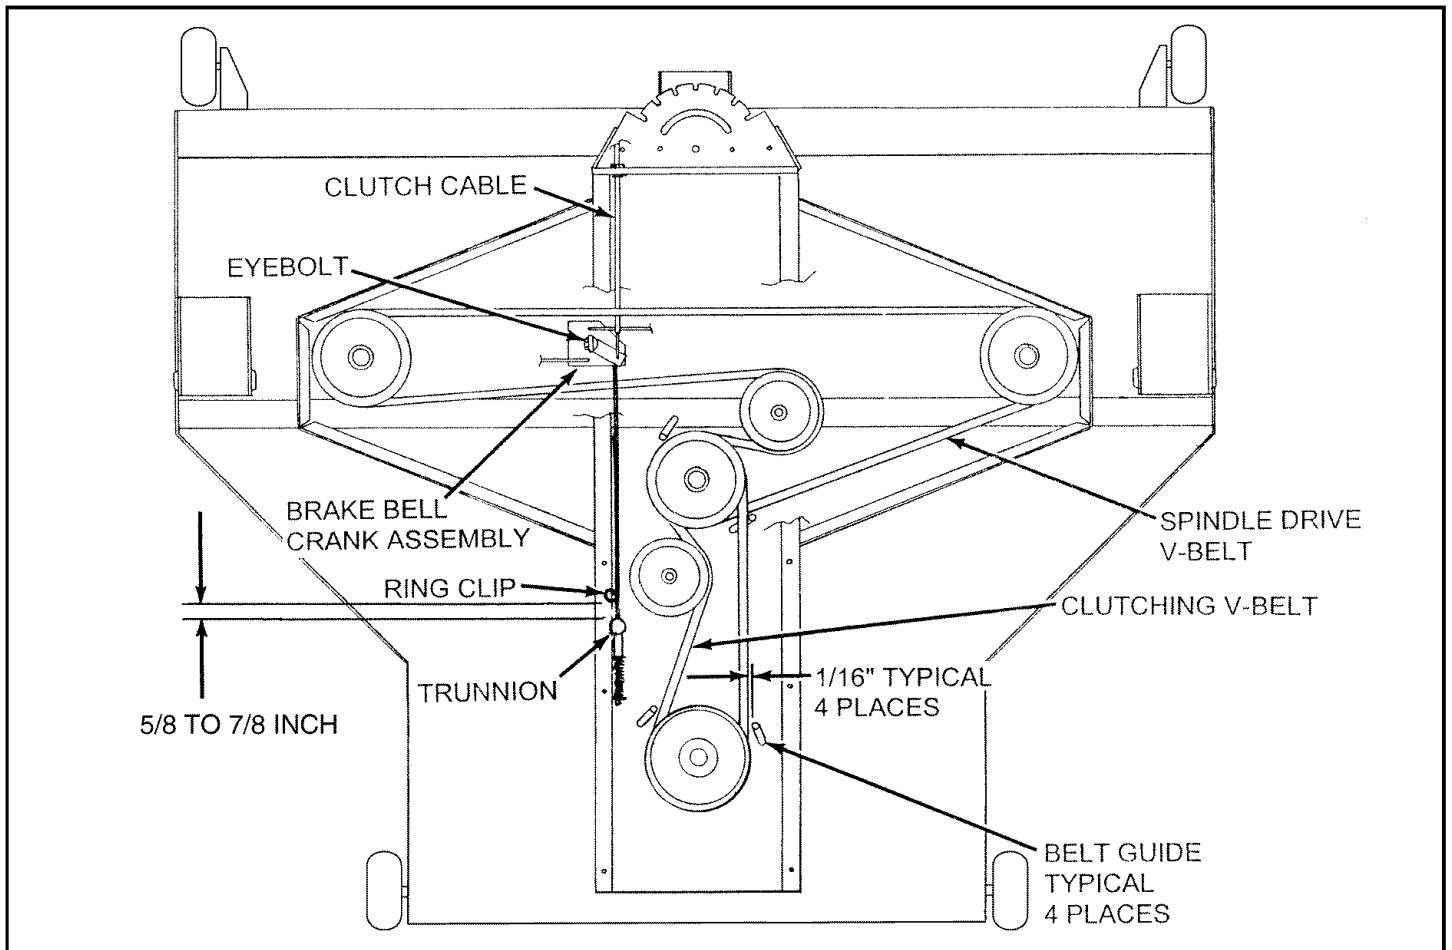

FIG. 2
- Check spring tension. (See Fig. 2)